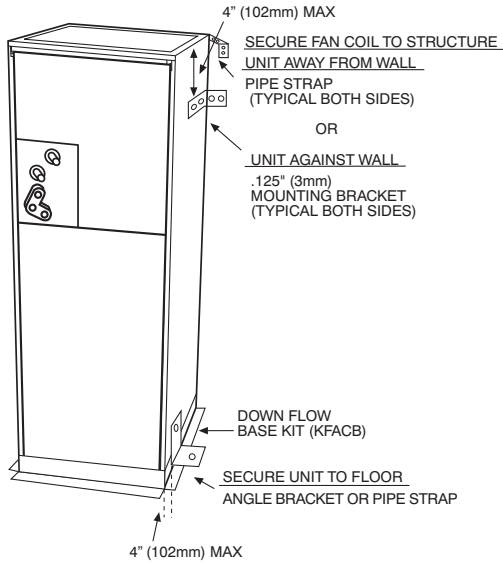

Fig. 7 - A-Coil
- b. If fan coil is against wall, secure fan coil to wall stud using 1/8-in (3 mm) thick right-angle brackets. Attach brackets to fan coil using no. 10 self-tapping screws and to wall stud using 5/16-in. lag screws. (See Fig. 7.)